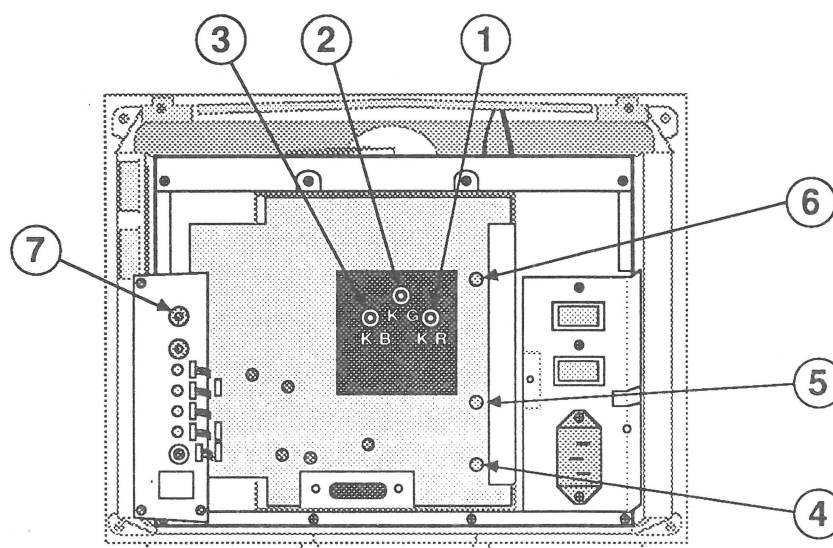

FIGURE 7
6. Using the voltmeter red lead, measure the voltage at the cathode marked KR on the "C" board (Figure 7, #1). Gradually adjust the **red background** (R.BKG) control (Figure 7, #4) until the DC voltage at KR measures 140V (+/- 2V).
7. In the same way, measure the voltage at the cathode marked KG on the "C" board (Figure 7, #2). Gradually adjust the **green background** (G.BKG) control (Figure 7, #5) until the DC voltage at KG measures 140V (+/- 2V).
8. Finally, measure the voltage at the cathode marked KB on the "C" board (Figure 7, #3). Gradually adjust the **blue background** (B.BKG) control (Figure 7, #6) until the DC voltage at KB measures 140V (+/- 2V).
9. Turn the CUTOFF control on the "H" board (Figure 7, #7) clockwise until the screen raster is just visible, and then counterclockwise until the raster (just) disappears completely. The cutoff is now correctly set.